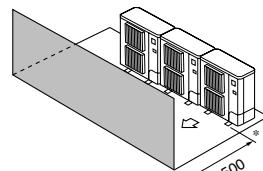

Fig. 2-10
③ Solo ostacoli anteriori (Fig. 2-10)